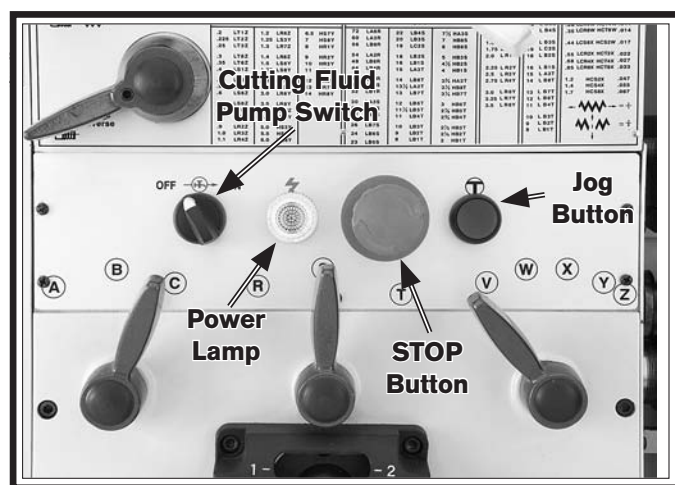

Figure 24. Control panel.
5. Push the STOP button on the control panel (see **Figure 24**), and point the coolant nozzle into the chip pan.